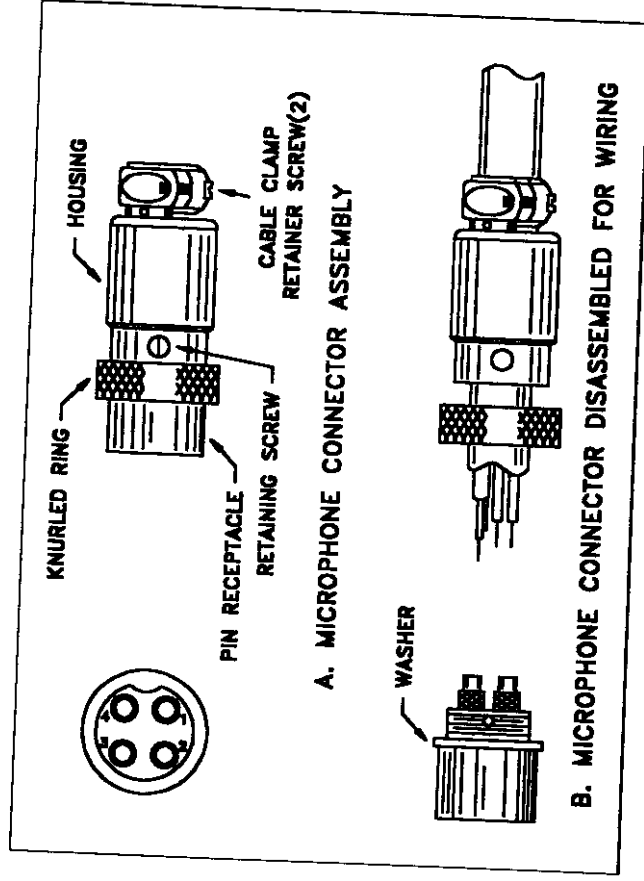

Fig 2. Microphone plug wiring
4. Feed the microphone cable through the housing, knurled ring and washer as shown Figure 2.
Be sure that the housing and the knurled ring of Figure 2 are pushed back onto the microphone cable before starting to solder. If the washer is not captive to the pin receptacle body, make sure that it is placed on the threaded portion of the pin receptacle body before soldering.